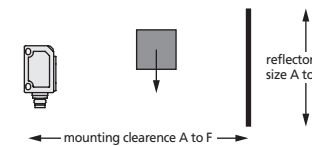

Fig. 6: Sensor/reflector working clearance
- If the unobstructed 500 mm space cannot be provided or should the sensor be used in the «Two-way reflective barrier» mode, then a plane reflector at a specific distance to the sensor must be fitted (see Fig. 6). The size of the reflector and its working clearance from the sensor can be taken from the table in Fig. 7.